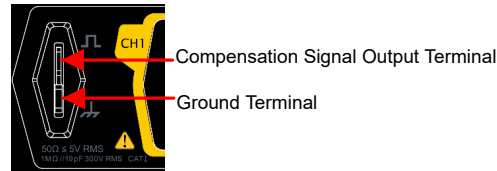

Figure 7.7 To Use the Compensation Signal
2. Connect the ground alligator clip of the probe to the "Ground Terminal" as shown in Figure 7.7.
3. Use the probe to connect the input terminal of CH1 of the oscilloscope and the "Compensation Signal Output Terminal" of the probe, as shown in Figure 7.7.